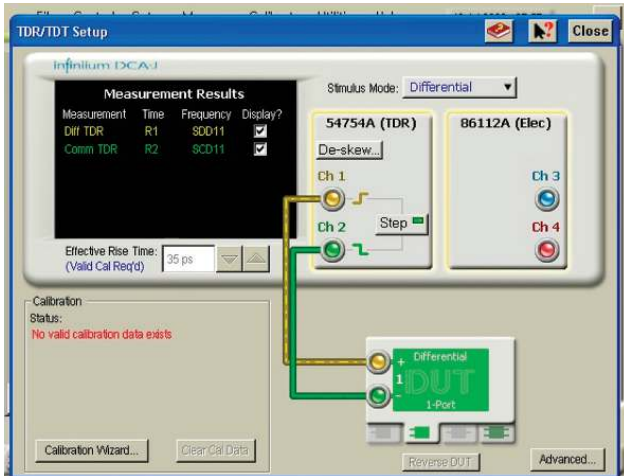

Figure 2. TDR Setup
- 1 Touch the TDR Setup icon on the left side of the screen to display the setup dialog box (Figure 2).